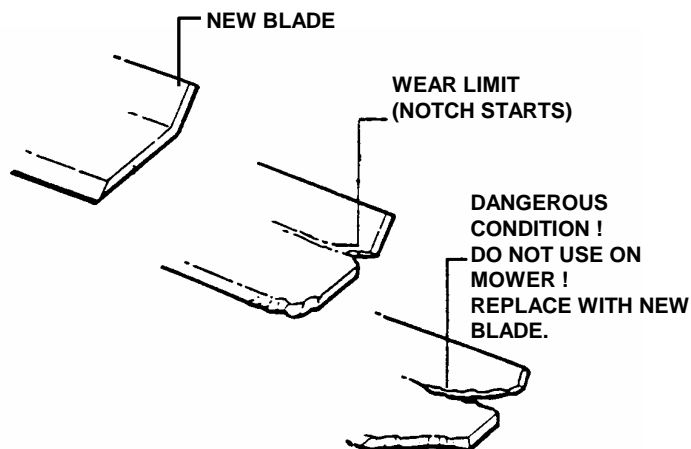

FIGURE 4.1
1. Inspect blade frequently for signs of excessive wear or damage. See Figure 4.1.
2. Replace the blade if it is badly chipped, bent, noticeably out of balance or has cracks or notch in either tip. See Figure 4.1 & 4.1A. Replace with new blade.
6. Reinstall blade. Refer to Figure 4.1. Check torque of blade retaining cap screw. Recommended torque should be 30 to 40 ft. lbs.